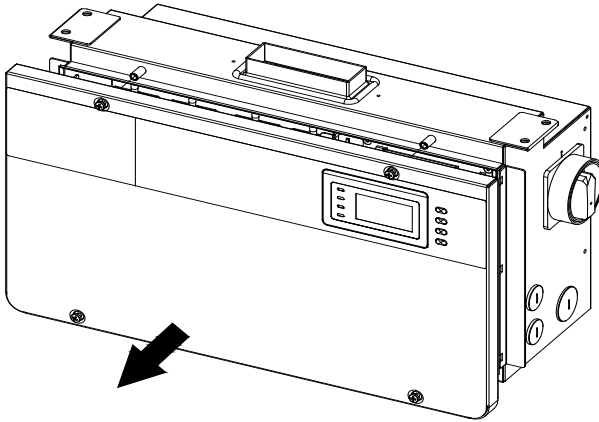

Figure 2.15 – Removing the Wiring Box Cover
- (1) Use a #3 Phillips screwdriver to remove the 4 screws on the wiring box and pull cover straight off the box. Do not twist or slide the cover while removing. (see Figure 2.15)
1. Remove the cover of the wiring box. (see Figure 2-15)